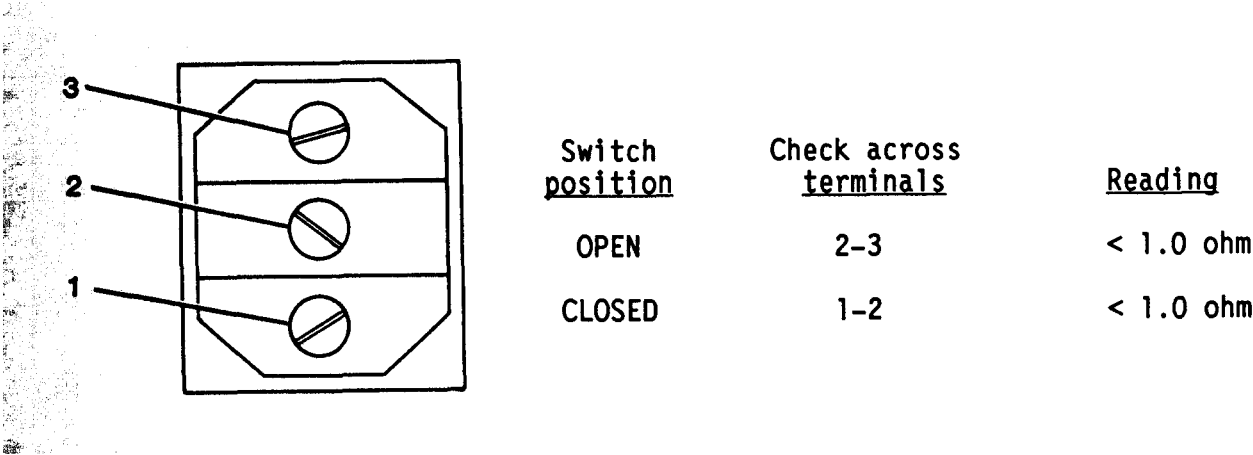

Figure 4-46. Contactor Switch Test
- (a) Refer to figure 4-46 and place multimeter probes on terminals 2 and 3 of CONTACTOR switch.